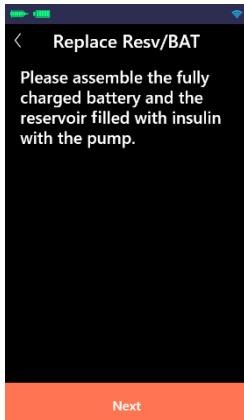

Figure A.2.20
(2) Assemble the fully charged battery and the reservoir filled with insulin with the pump (as shown in Figure A.2.20). After the assembly is completed, please click "Next".